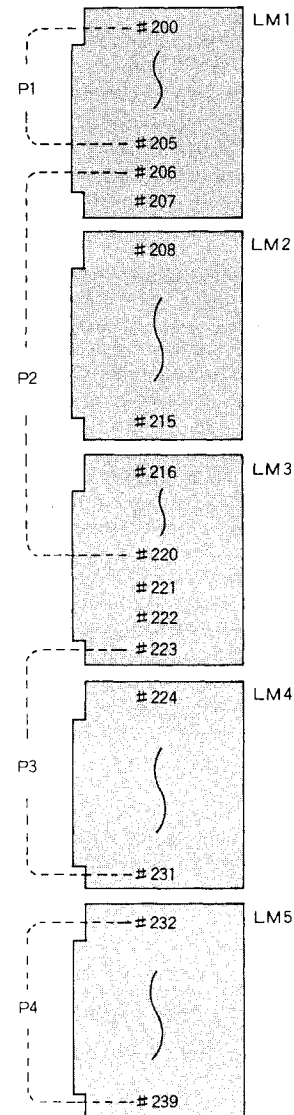

Fig. 1 Assignment of Station Paging
1. If the station paging zones are to be assigned as shown in Table 1, each individual LM unit is divided as shown in Fig. 1.
- ① <For the LM-62A unit> Refer to Table 2.